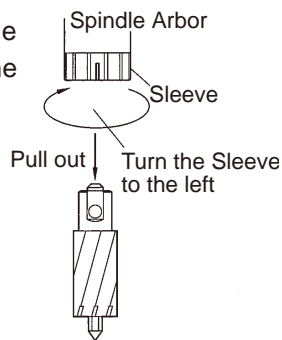

Fig. 13
- To remove the cutter, turn the Sleeve counterclockwise. The cutter will come off. (Fig.13)